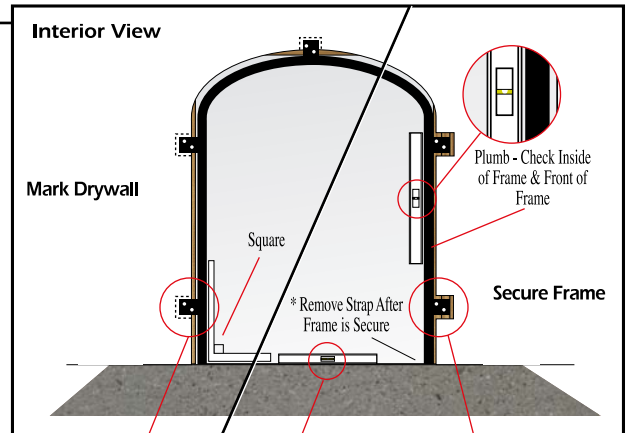

Fig. 2
3. Remove Door Panel/s by swinging door/s open and lifting up & out from Hinges. Set door/s aside. Set frame in position and mark the interior wall where flanges/tabs are – 5 total. (See Fig. 2)